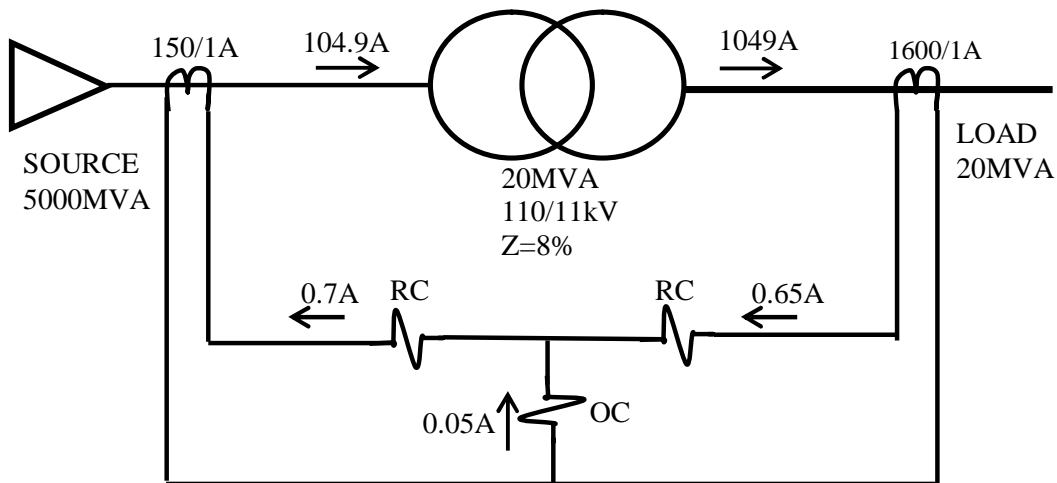

Figure-5
a) Normal case when load on transformer is 20MVA is shown in Figure-5
During Normal load condition, ID = 0.05A (Refer Figure-5)